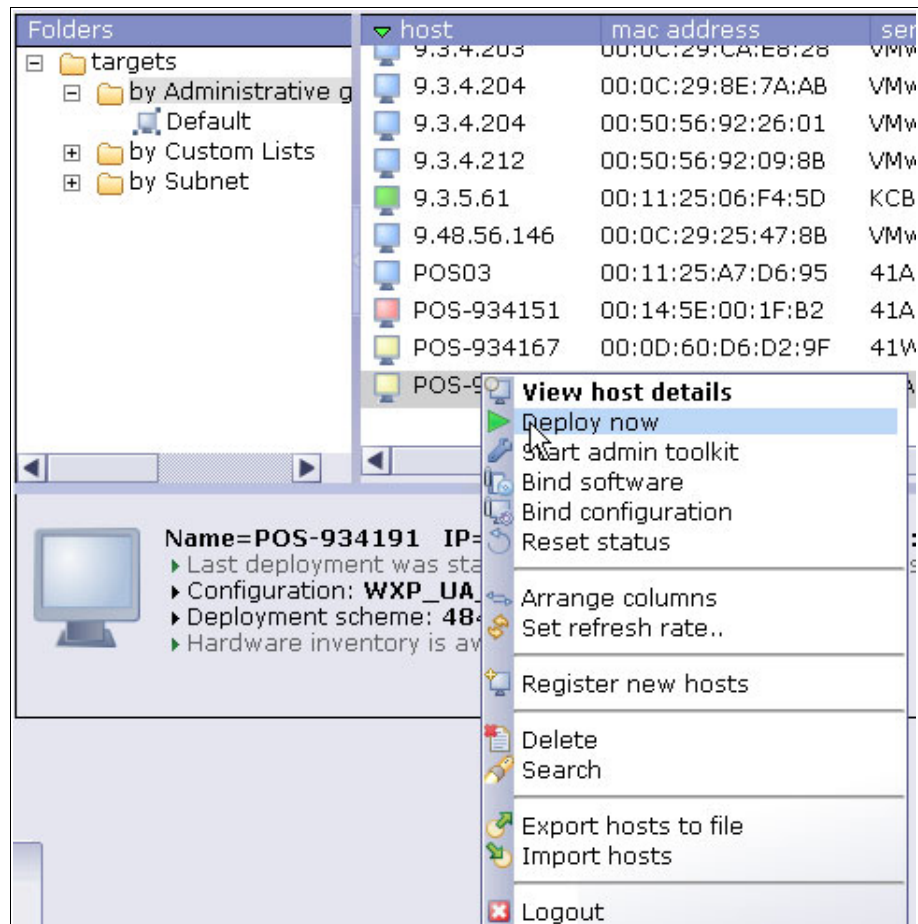

Figure 3-18 Selecting deploy now from the server console
2. After the client completes the network boot, return to the server console and select **Host Monitor** from the left margin to ensure that the system is discovered. Right-click on the newly discovered system and select **Deploy now** as shown in Figure 3-18 on page 75.